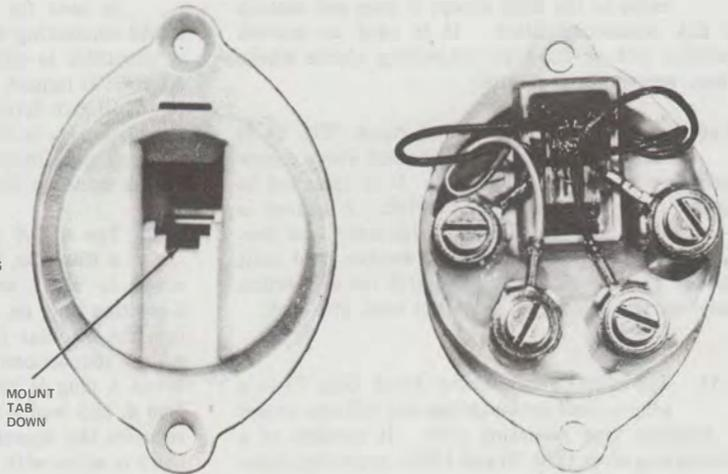

Fig. 3—625F Connecting Block (Without Mounting Hardware)◆
- Delete statement in Fig. 3 for optional installation of 625F connecting block in woodwork
- Block, Connecting, 625F (Fig. 3)
**2.05** The **625F** connecting block (Fig. 3) is intended for use in new installations requiring a flush-type connecting block or for modular replacement of 548A jacks or 47F connecting blocks. It does not include faceplate or mounting bracket.